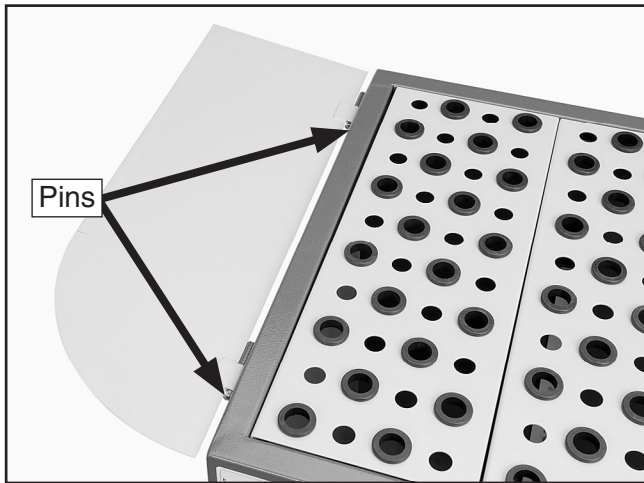

Figure 9. Left panel installed.
5. Secure the right and left panels with the remaining pins (**Figure 9**).